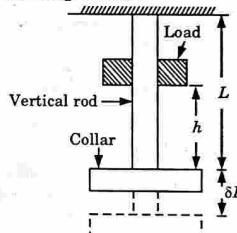

Fig. 1.31.1
1. Consider a vertical rod fixed at the upper end and having a collar at the lower end as shown in Fig. 1.31.1.